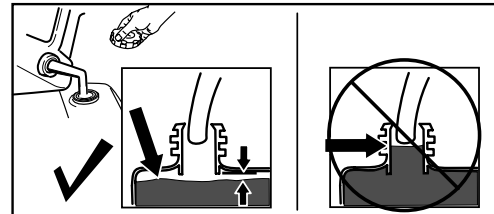

Figure 13
Do not fill above the bottom of the fuel tank neck (Figure 13).
- Remove an obstruction from the discharge chute; refer to Clearing a Clogged Discharge Chute \(page 15\). Use the snow-cleanout tool (Figure 13), not your hands, to remove an obstruction from the discharge chute.